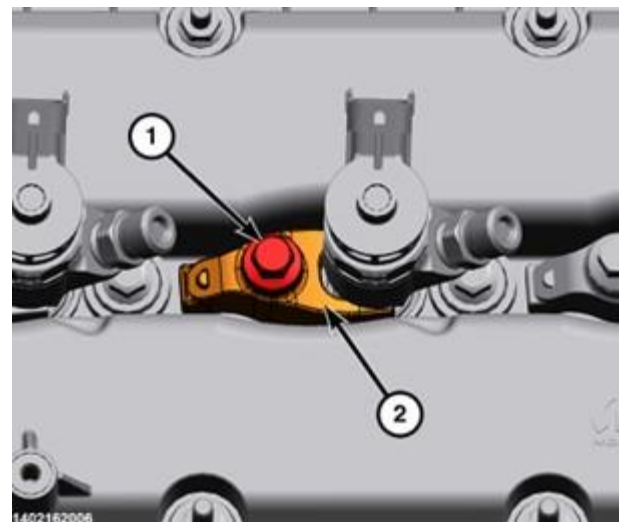

Figure 46 – Fuel Injector Bolt and Clamp
- 87. Remove the bolt (1) and the fuel injector clamp (2) (Figure 46).